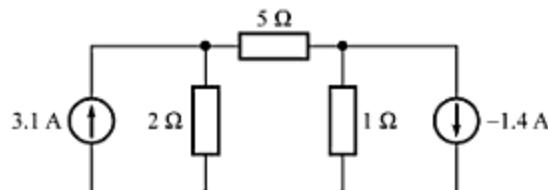

Fig. A-63
- A-20.** Find the voltages across the various components in the circuit of Fig. A-63. [Ans. 5 V, 2 V, 3 V]